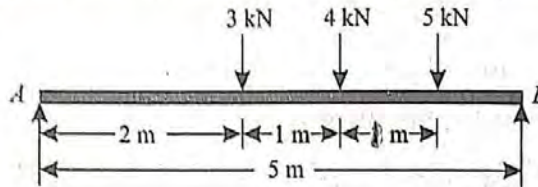

Fig. 9.7.
**Example 9.1.** A simply supported beam AB of span 5 m is loaded as shown in Fig. 9.7. Find the reactions at A and B.